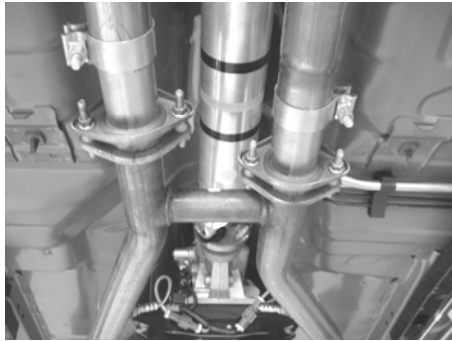

Figure 3
1. Place one flange on each flared front pipes and place them into position as shown in figure 3 using the original hardware. Secure them hand tight.